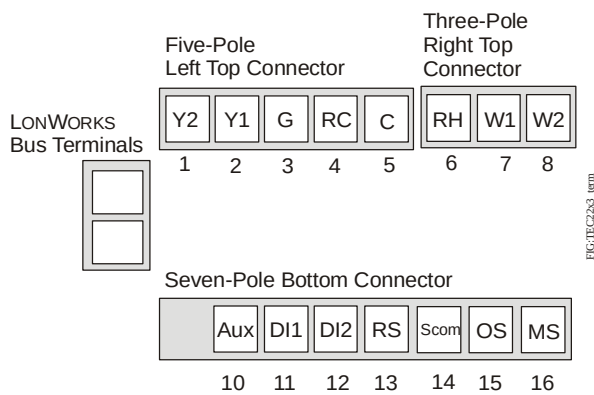
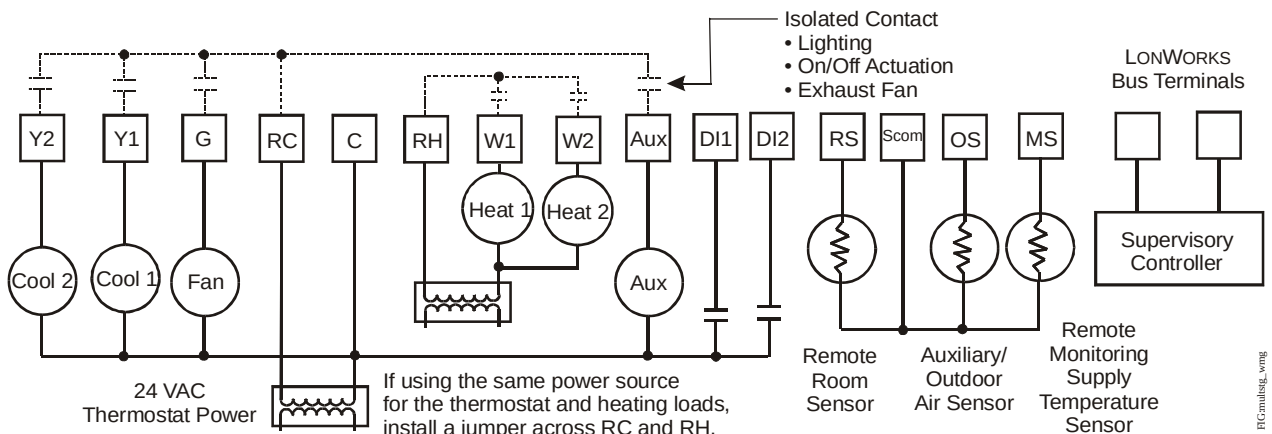
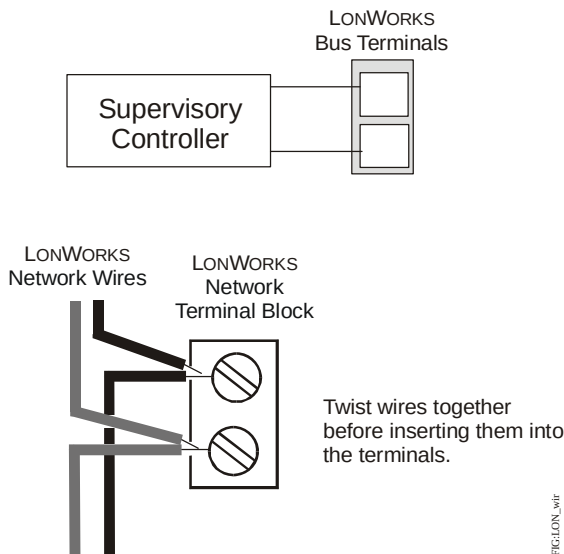

Figure 5: Terminal Blocks
Figure 6: Wiring the TEC22x3-3 Thermostat
Figure 7: Thermostat to Network Connection
- Strip the ends of each wire 1/4 in. (6 mm) and connect them to the appropriate screw terminals as indicated in Figure 6.
4. Reattach the LONWORKS communication wires to the LON terminal block. See Figure 5.
Table 1: Terminal Identification (See Figure 5.)
1. Connect the LONWORKS network wires to the LONWORKS network terminal block on the thermostat (Figure 5, Figure 6, and Figure 7).